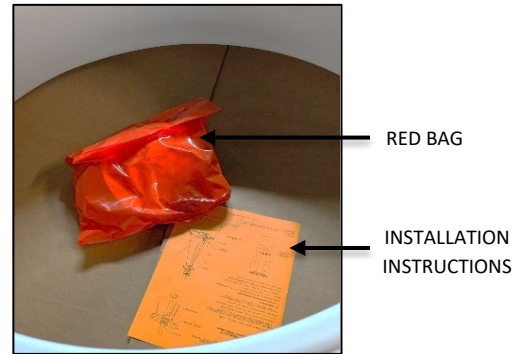

FIG. 3 - RED BAG AND INSTALLATION
2. INSTALLATION INSTRUCTIONS (shown in FIG. 3) - Please completely read the install instructions before starting installation.
3. RED BAG (shown in FIG. 3) contains below following items